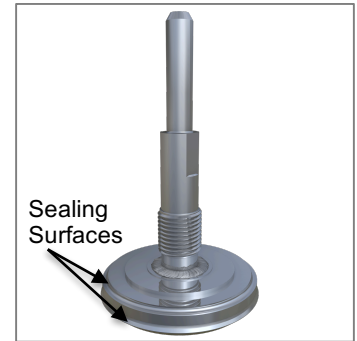

Figure 4-17 Stem Sealing Surfaces Inspection
The valve stem (item 2) runout must not exceed 0.010" maximum on stem sealing surfaces as shown in Figure 4-17. If not, replace the stem.